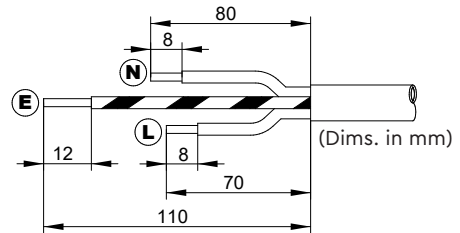

Fig. 7
2. Strip and prepare the cable sheath and insulators as shown in Fig. 7.